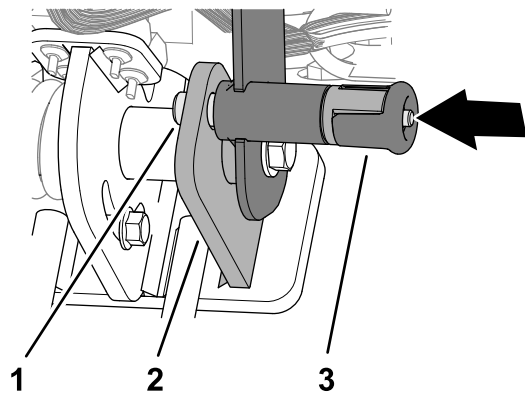

Figure 6
4. Rotate the handlebar up and secure it with the handlebar-latch pin (Figure 6).